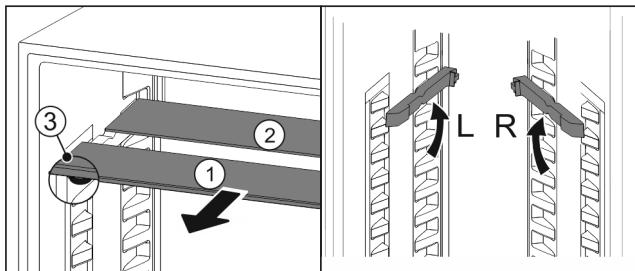

Fig. 133
► Pull the glass panels out Fig. 133 (1) from the front, one at a time.
► The glass panel Fig. 133 (1) and trim strip are at the front.
► The stops Fig. 133 (3) point down.